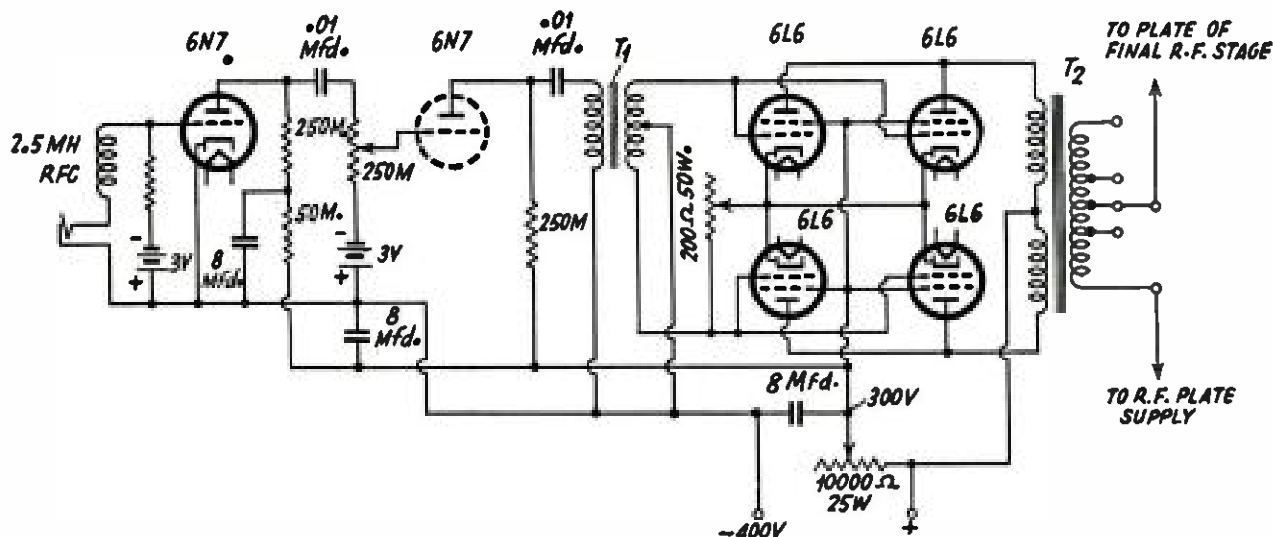
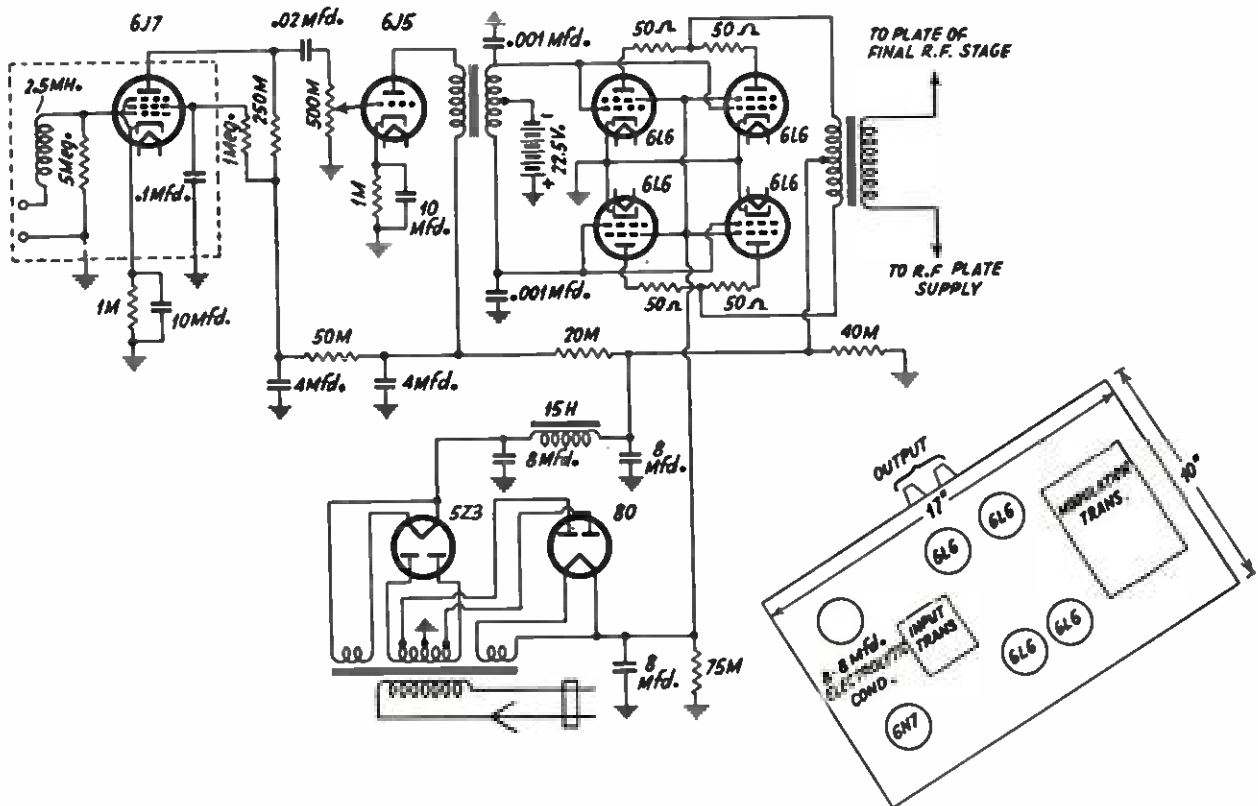

FIG. 1.
FIG. 2.
Fig. 1 shows a complete speech amplifier-modulator unit which is just about as simple as anything could be. Using a total of only five tubes, four of which are the push-pull-parallel 6L6's, and operating from a D104 crystal mike, this unit provides enough audio to over-modulate a pair of T20's in the final RF stage running at their rated input of 112 watts. Not only does this spell tube and space economy but the unusual compactness of the speech amplifier from the viewpoint of concentration of wiring, etc., results in reduced likelihood of trouble from RF feedback.
The merit of this type of modulator stage is being recognized in commercial transmitter design. Hallicrafters have adopted it, Their commercial marine circuit is identical with that of Fig. 1 except that the 6L6 bias is semi-fixed and 50-ohm suppressors are included in each plate lead. In the modu-
This circuit will interest the ham who would like to go a step further than the simple circuit of Fig. 1. It will provide somewhat greater output before the distortion region is reached. At 50 watts output
For those who may be interested in the details of these refinements, the circuit of the audio system of this rig is shown in Fig. 2.
The simpler unit of Fig. 1 is built up on a single standard chassis (the power supply unit is separate) laid out as shown in Fig. 2. The gain control is centrally located on the front panel with the microphone jack
**A** FLEXIBLE circuit for the construction of an analyzer is shown in Fig. 1. There are so many d-c voltage ranges that omissions may be made, to accommodate the circuit to a two-deck switch of fewer than the twenty-three positions shown. However, it is worth-while to have multiple ranges for the important purpose of d-c volts, so that readings will obtain largely at the upper end of the scale, where accuracy is better. Shown are nine d-c voltage ranges, 0-2.5-10-25-50-100-250-500-1000-2500 volts. If reduced to five these might be 0-10-50-250-500-2500, or, make the last range 1,000. In any event a triple numbering system for the dial scale suffices for any of these requirements, since the appearing numbers for all the ranges are 0-10-50-250, and higher than base ranges are read as decimal multiples.